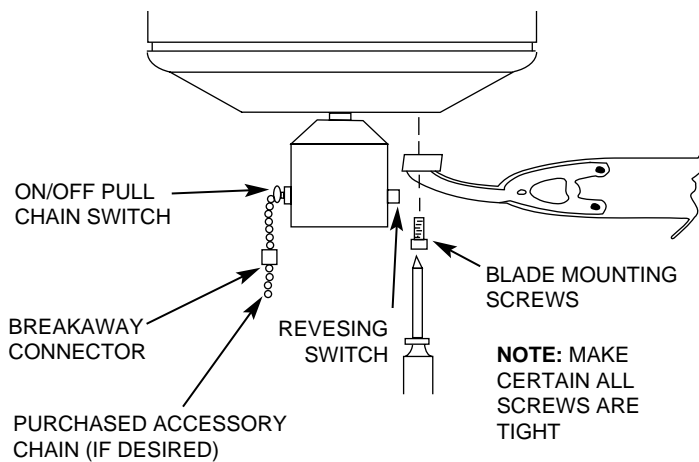

FIGURE 10
B. Remove the screws from the motor hub. Insert a mounting screw (provided) in hole in blade bracket. Use a screwdriver to hold in place. Align blade holes with mounting holes in hub by turning screw and readjusting blade bracket until screw mates with threaded hole in hub. Do not tighten until both screws have been put in blade bracket. Repeat for all blades. See Figure 10.
B. Switch operates in this sequence: “High,” “Medium,” “Low,” “Off.” Pull chain slowly to operate. Also, release the chain slowly so as to prevent chain from flying up into blades, possibly resulting in damage to blades or pull chain. The break-away connector is designed to separate from the chain at a pre-determined force. If this separation occurs, simply reinsert the connector. It can be reused again and again. See Figure 10.
C. Motor is electrically reversible. When first operating fan, determine direction of air flow. If you wish to change direction, switch fan off and allow to stop. Slide reversing switch to the opposite position and switch fan back on. See Figure 10.